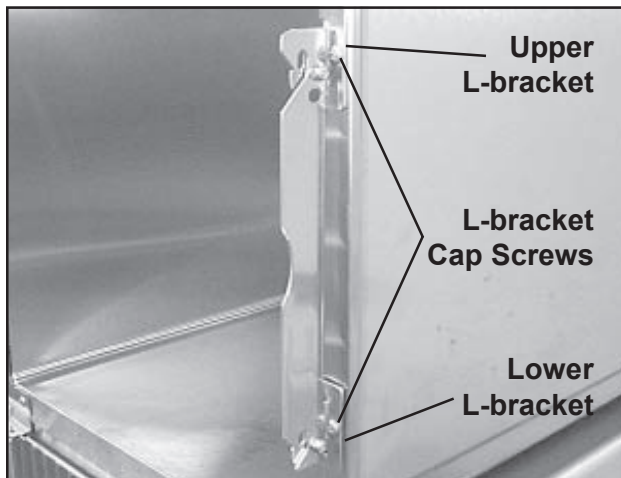
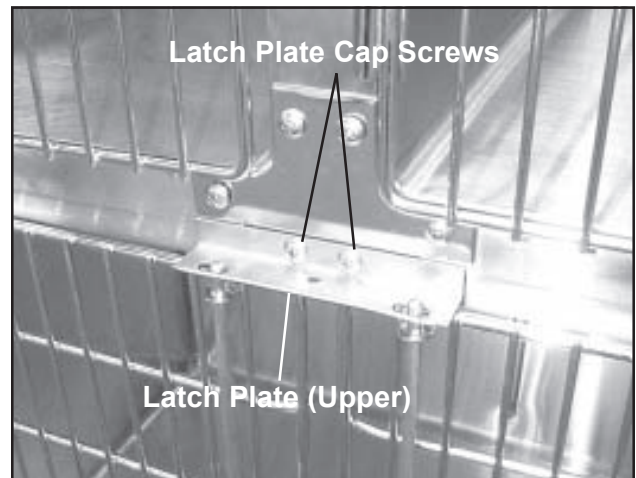

Figure 63. L-bracket Adjustment (single-door cages)
Figure 64. Latch Plate Adjustment (double-door cages)
1. Loosen the L-bracket cap screws (Figure 63). On double-door cages, loosen the upper and lower latch plate cap screws (Figure 64).